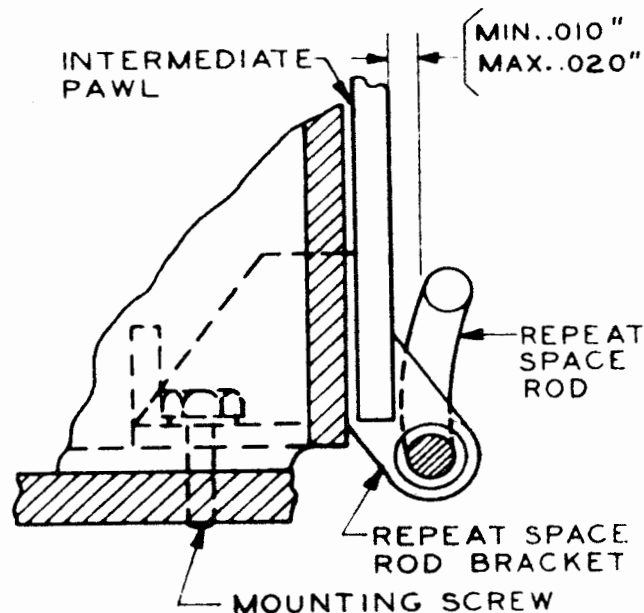

Figure 21
2.28 Repeat-space Rod Cutout Bracket: Repeat-space rod should clear the intermediate pawl by minimum 0.010 inch, maximum 0.020 inch when the keyboard-control operating lever is in its lower TAPE position and the spacebar is depressed until its lever bottoms lightly in the two front selector bars. See Figure 21.